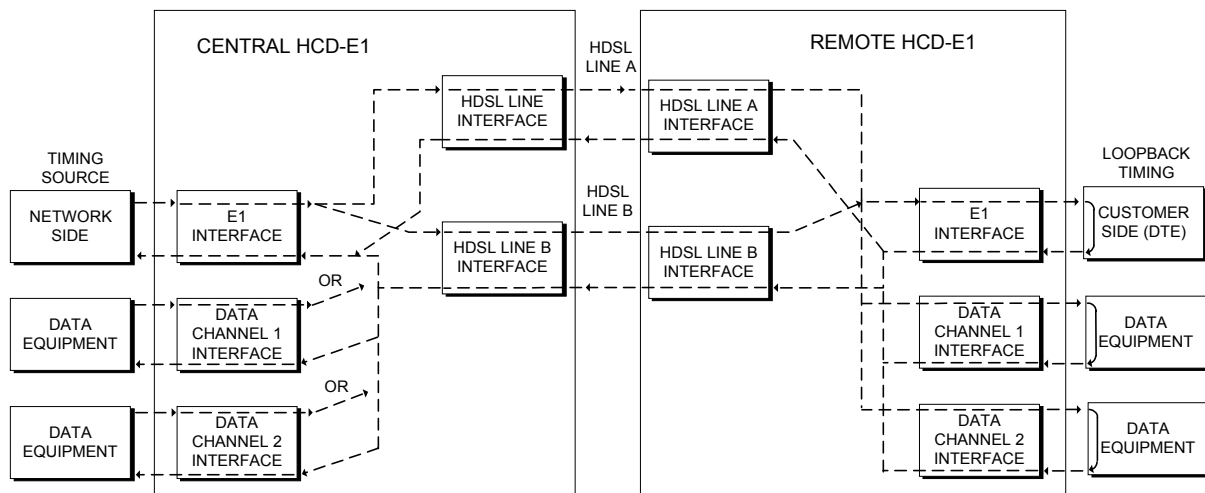

Figure 1-5 Flow of Timing Signals through HCD-E1 System in the External Timing Mode
With **external timing**, the HCD-E1 system timing is locked to the clock signals recovered from the incoming clock or to external clock signals (derived from one of the synchronous data channels or from the E1 sublink). *Figure 1-5* shows the flow of timing signals through the HCD-E1 system in the external timing mode.
**The loss of frame alignment** (also called loss of synchronization) condition is declared when too many errors are detected in the frame alignment signal (FAS), e.g., when 3 or 4 FAS errors are detected in the last 5 frames. Loss of frame alignment is cleared after no FAS errors are detected in two consecutive frames. The loss of frame alignment is reported by means of the A bit (see *Figure 1-5*).